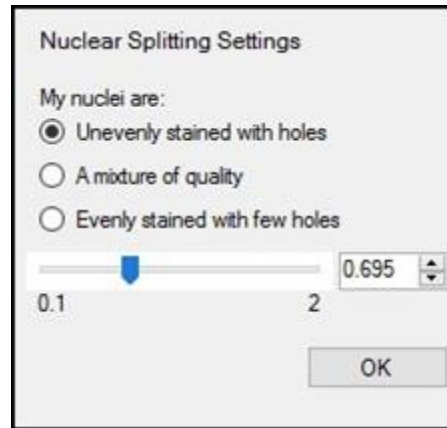

FIGURE 13.6. Nuclear Splitting Settings.
1. Click the “...” button to open the Nuclear Splitting Settings dialog box. (See Figure 13.6.)